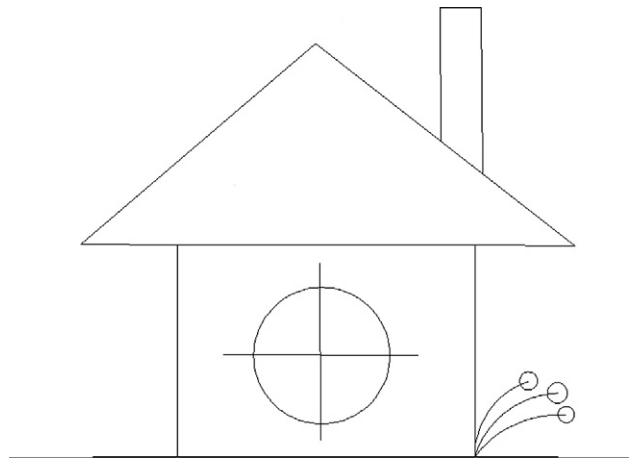

FIGURE 1.20
So, let us put all of this to good use. Create the drawing shown in Figure 1.20. Use the rectangle, line,
Step 2. Select any object from the house in the previous drawing assignment (Figure 1.20) by taking the mouse, positioning it over that object (not in the empty space) and left-clicking once.